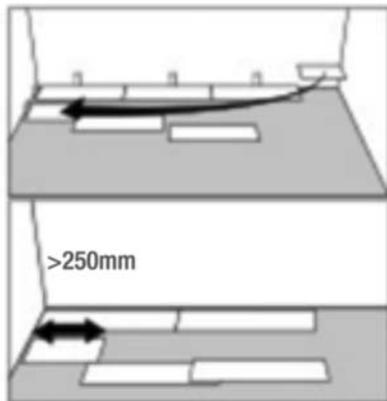

Figure: 4
- a) If this distance is less than 250mm go back to the first full plank and cut approximately 250mm from the end closest to the starting wall. This will leave a longer piece at the end of the first row. (See figure 4).